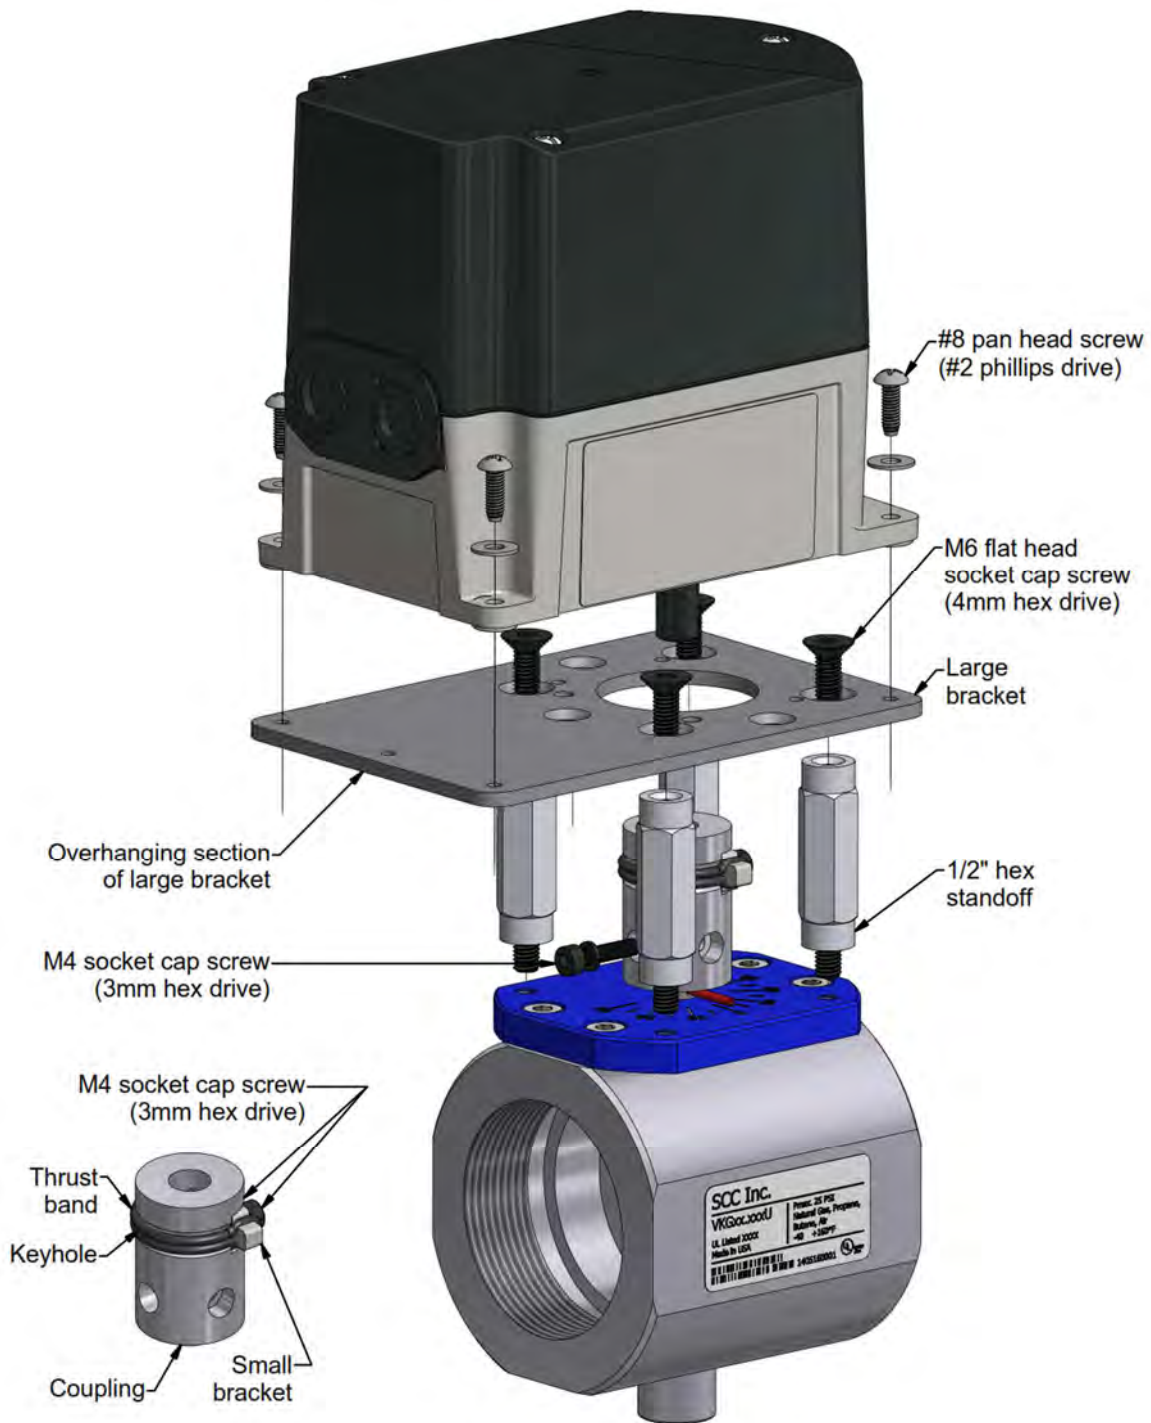

Figure 1: Exploded View of VA45.2-NF-200
7. **If the (4) 1/2" hex standoffs were removed in step 6**, thread them back into the threaded holes on top of the valve and tighten with a crescent wrench. **If the coupling was removed in step 6**, slide the coupling back over the valve shaft. Insert the M4 socket cap screw and lock washer through the coupling and valve shaft so that the coupling is in the desired position of the (4) clockable positions. The valve should still be at the closed / 0° position.
8. Fasten the large bracket back onto the standoffs with the (4) M6 flat head socket cap screws (4mm hex drive) so that the overhanging section of the large bracket is on the opposite side of the coupling as the small bracket.
9. Insert a small flat head screwdriver into the keyhole (see Figure 1) between the thrust band, and with the other hand, grab the actuator and push it into the coupling until the actuator shaft clears the small bracket. Remove the screwdriver from the keyhole.
11. Fasten the actuator to the large bracket with the (4) #8 pan head screws (#2 phillips drive) and associated washers. Then, tighten the (2) M4 socket cap screws (3mm hex drive) to secure the small bracket to the flat of the D-shaft.
In some cases, the actuator may need to be removed from the valve temporarily during piping. Additionally, the actuator and bracket can be rotated relative to the valve for wiring purposes. The instructions below and the exploded views in Figures 1 and 2 are a guide to proper disassembly and reassembly of a VA... valve actuator assembly with a VKG... butterfly valve.